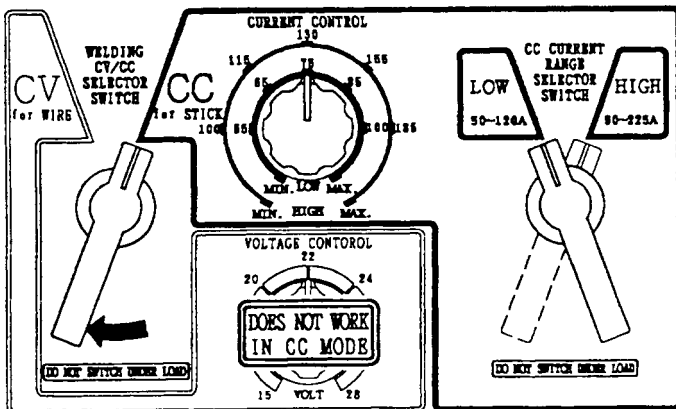

Figure 11. Welding Current Adjustment
2. Turn the CV/CC **Selector Switch** (Figure 11) to the **CC** position.